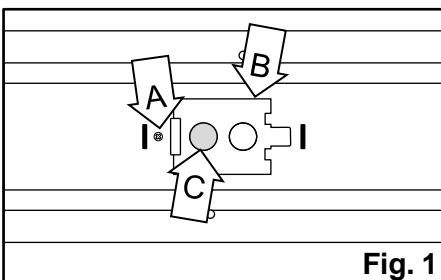

Fig. 1
1. Remove the **screw** (A) near the **wire cover** (B) located on the back of the fixture. [Fig. 1]
2. Punch out one of the **knockouts** (C) in the **wire cover** (B). [Fig. 1]
5. Place the **wire cover** (B) back onto the fixture and secure it with the **screw** (A) that was previously removed. [Fig. 1]